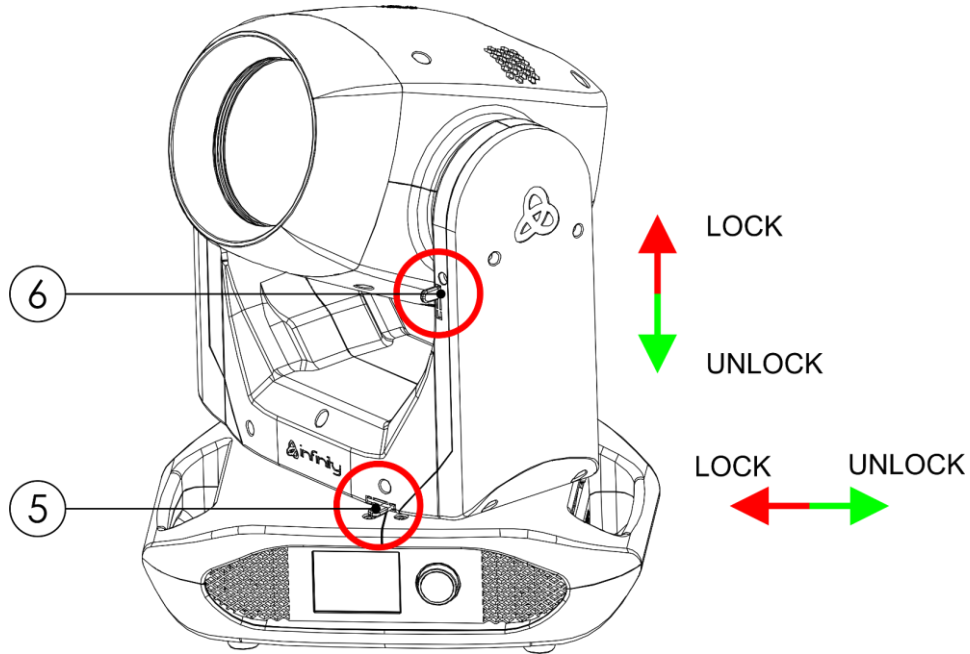

Fig. 09
- Slide the **pan lock pin (05)** to the left to disable and to the right to enable the horizontal movement (**Pan**) of the fixture (see Fig. 09).
- Slide the **tilt lock pin (06)** upwards to disable and downwards to enable the vertical movement (**Tilt**) of the fixture (see Fig. 09).